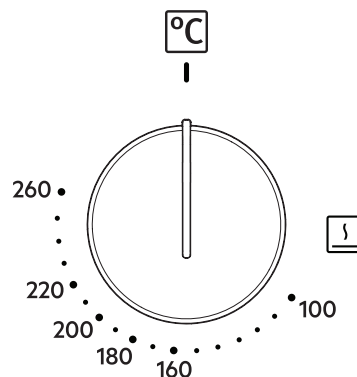

Figure 14: Oven Temperature Knob
4. Turn the oven temp knob to the desired temperature position (Figure 14).